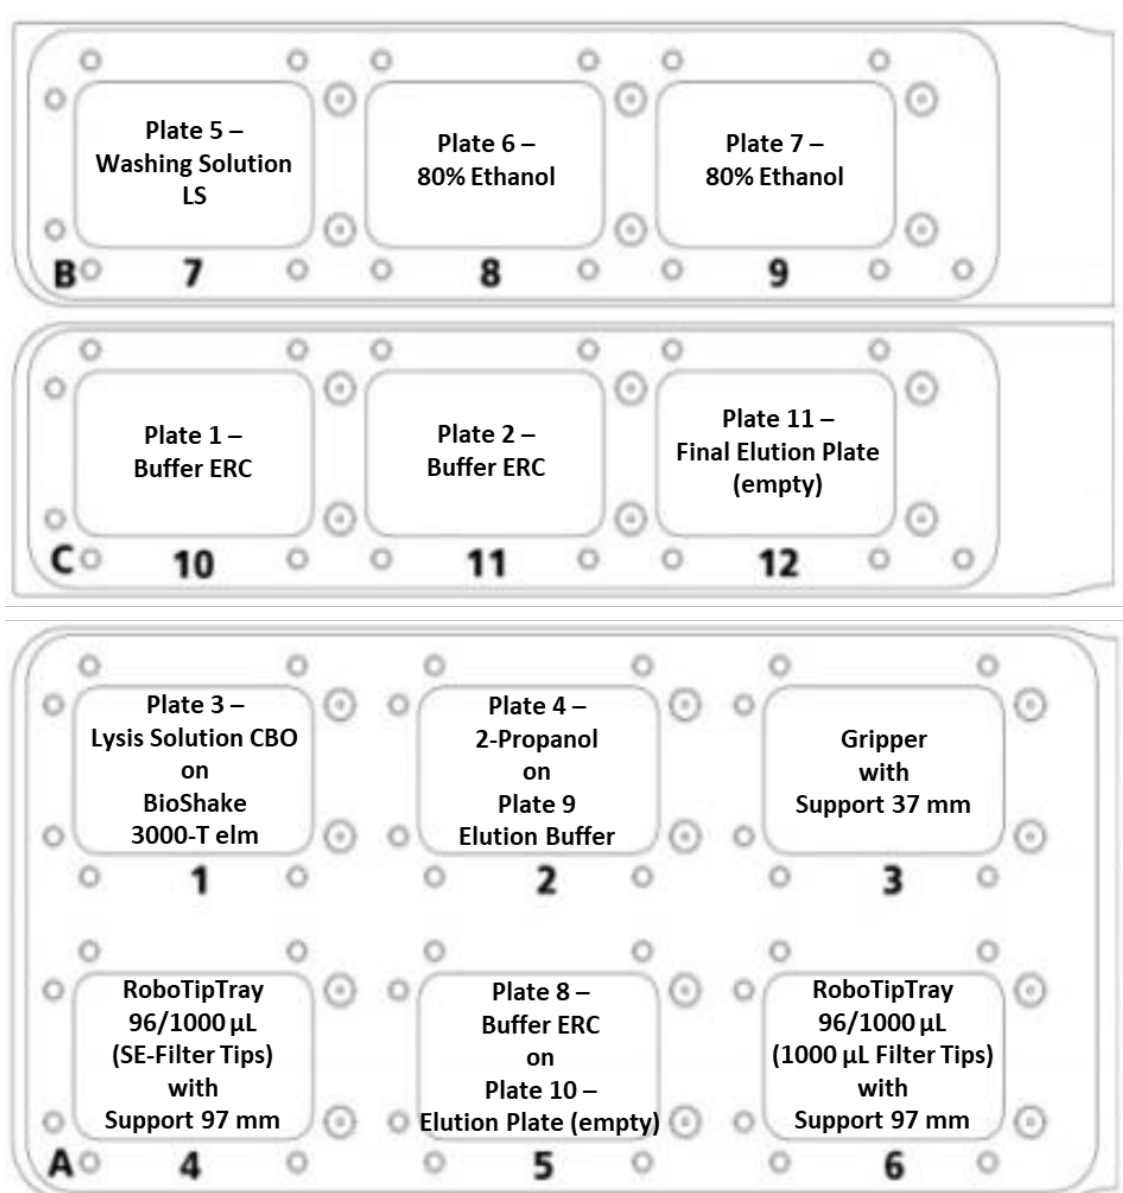

Figure 30: Deck layout for the extraction from 600–1000 µL sample material.
1. Load all plates and accessories onto CyBio FeliX decks according to **Figure 30**. As a final Elution Plate (**position 12**) multiple options are possible: